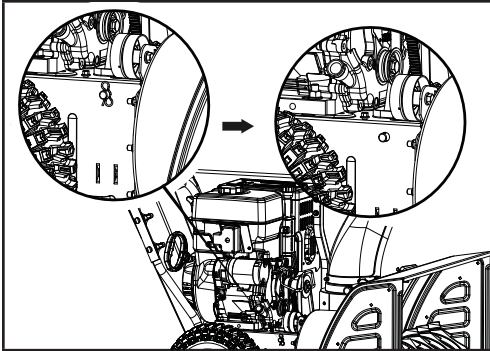
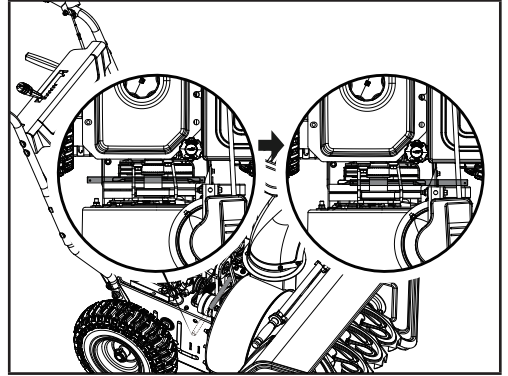

Figure 22A
Figure 22B
2. Remove clip and washer (Fig. 22A), pull support rod ½ way out from other side of snowblower (Fig. 22B).